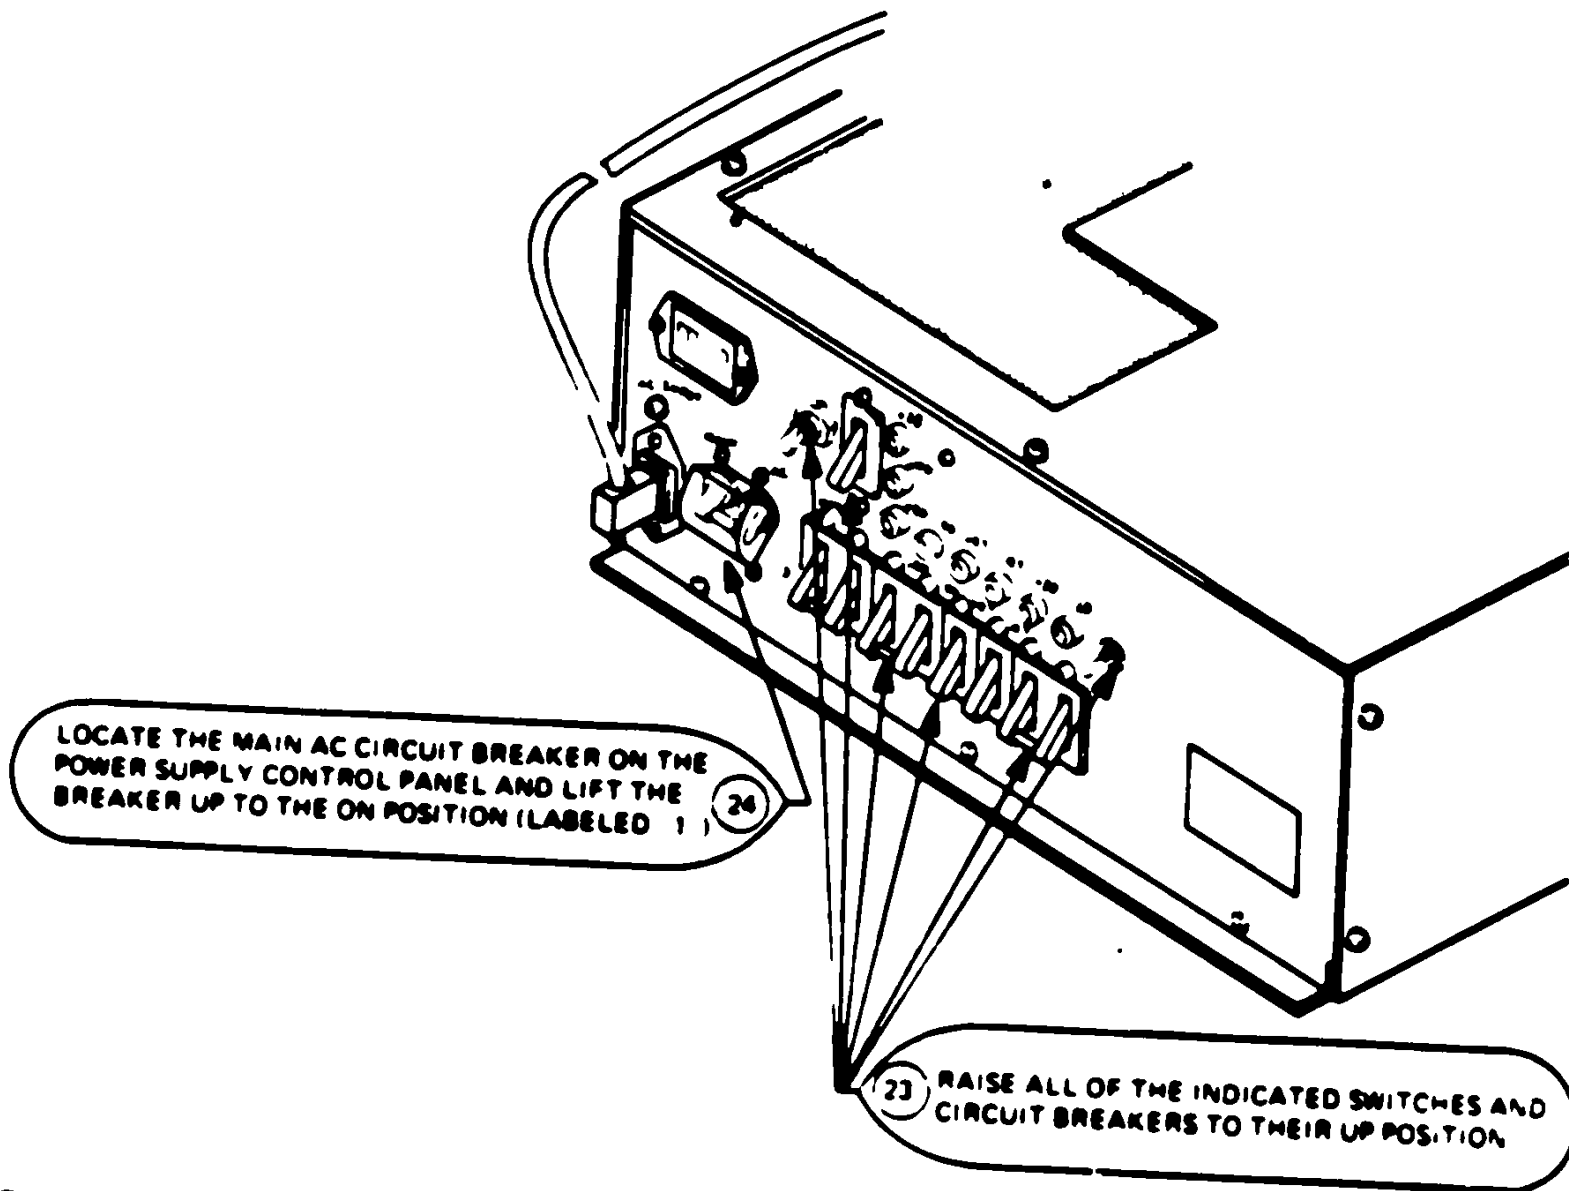

FIGURE 11 VDE RM05 POWER SUPPLY CONTROL PANEL
23. Raise all of the indicated switches and circuit breakers to their UP position. (See Figure 11)
24. Locate the "MAIN AC" circuit breaker on the power supply control panel and lift the breaker up to the "ON" position (labeled "1"). (See Figure 11)